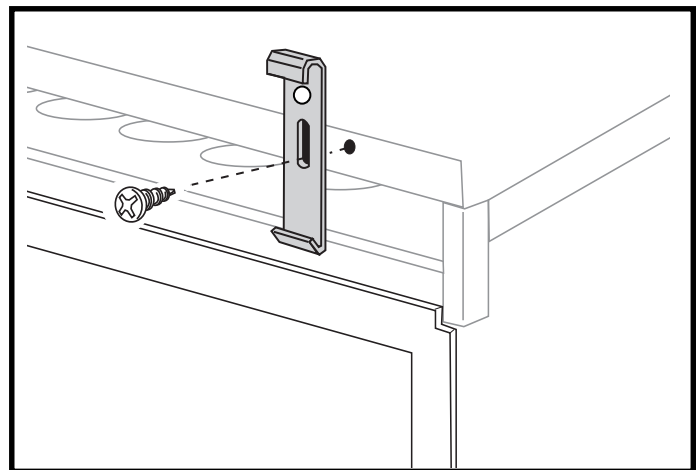

Fig. 36. Hanging Bracket alignment.
- 2) Install the hanging brackets, as per Fig. 36.